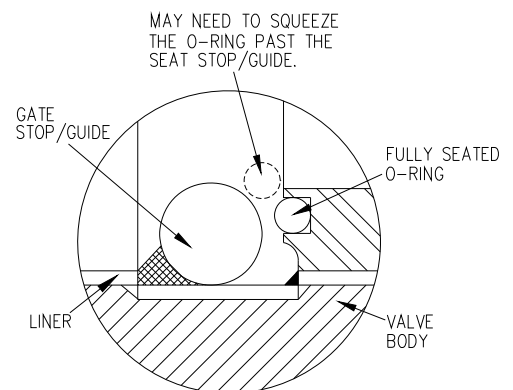

Figure 2
- E. While installing the seat o-ring, make sure it does not twist. Firmly press the o-ring into the groove. Added effort may be needed to fit the o-ring near the gate stoppers (blade guides) as shown in figure 2. Be sure the o-ring is fully seated.